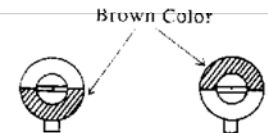

Fig. 13 Minimum Maximum
- Slowly turn TC17 in direction of decreasing capacitance and set it to the point where the VTVM reading is 90% of the peak reading. (Refer to Figure 13.)